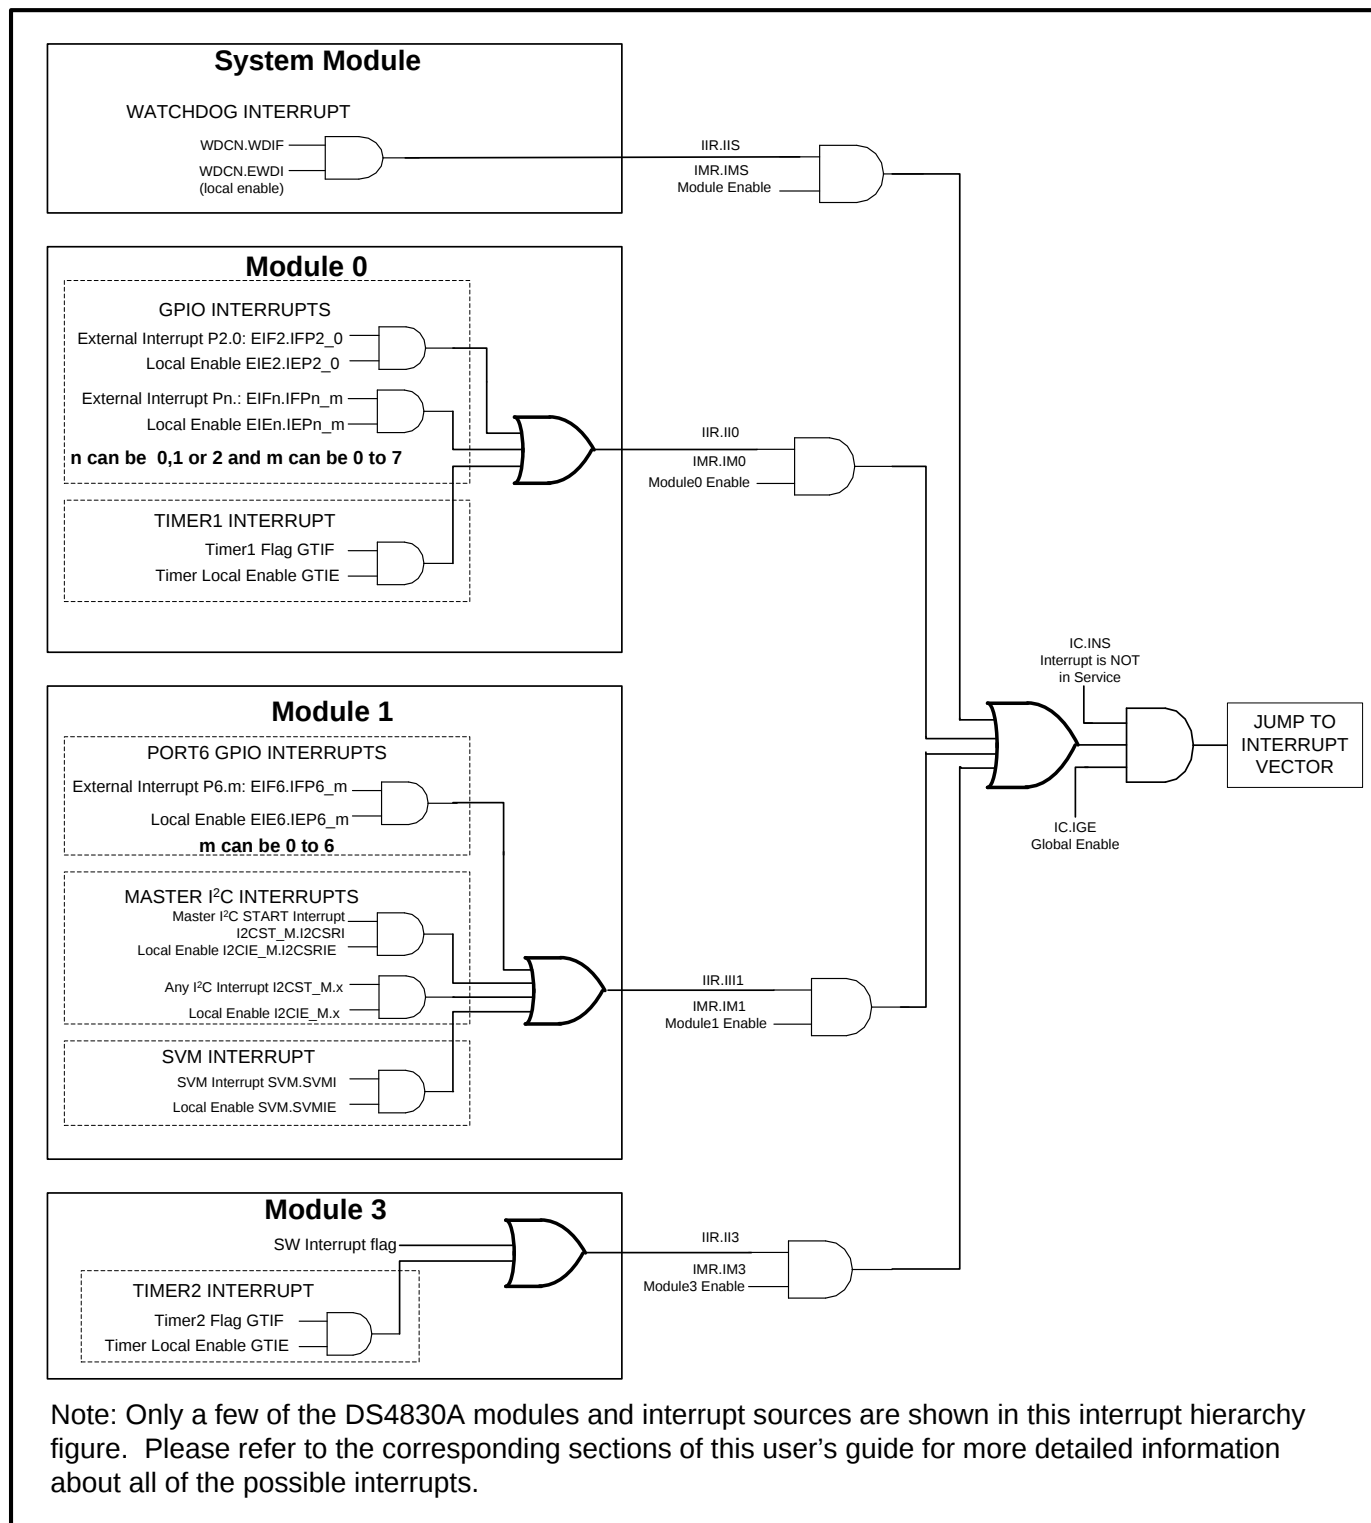

Figure 5-1: Interrupt Hierarchy
The DS4830A provides a single, programmable interrupt vector (IV) that can be used to handle internal and external interrupts. Interrupts can be generated from system level sources (e.g., watchdog timer) or by sources associated with the peripheral modules. Only one interrupt can be handled at a time, and all interrupts naturally have the same priority. A programmable interrupt mask register allows software-controlled prioritization and nesting of high-priority interrupts. Figure 5-1 shows a diagram of the interrupt hierarchy.
Note: Some of the DS4830A module and peripheral interrupts sources are shown in the Figure 5-1 interrupt hierarchy diagram. See the corresponding sections of this user's guide for more detailed information about all of the possible interrupts.
The local interrupt-enable bit for a particular source is in one of the peripheral registers associated with that peripheral module, or in a system register for any system interrupt source. Between the global and local enables are intermediate per-module and system interrupt mask bits. These mask bits reside in the Interrupt Mask system register. By implementing intermediate per-module masking capability in a single register, interrupt sources spanning multiple modules can be selectively enabled/disabled in a single instruction. This promotes a simple, fast, and user-definable interrupt prioritization scheme. The interrupt source-enable hierarchy is illustrated in Figure 5-1 as well as Table 5-1.